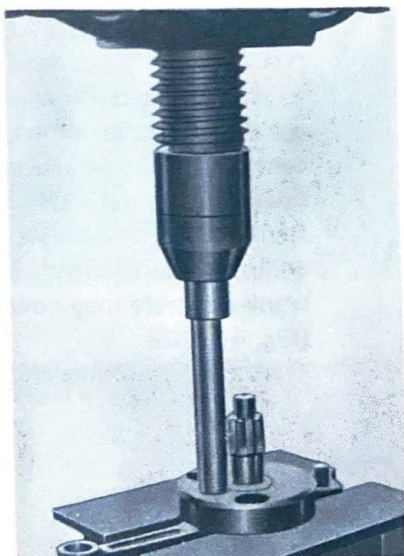
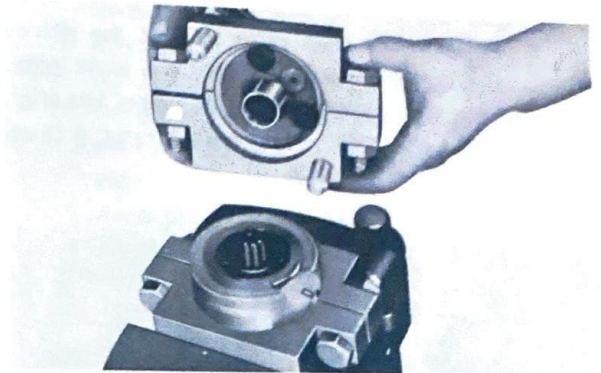

Fig. 4-17-10
Fig. 4-17-11
- (6) Remove the crankshaft pin in the manner as shown in Fig. 4-17-10. (For this purpose, use the jigs a shown in Fig. 4-17-11)
- (7) Next, take the remaining crank wheel with the crank pin still in it, turn the wheel over, place it on the support plates, and press out the crank pin.
- (8) Repeat steps "(6)" and "(7)" to disassemble the other crank half.
To reassemble the crankshaft ass'y use a set of special jigs as shown in Fig. 4-17-11.